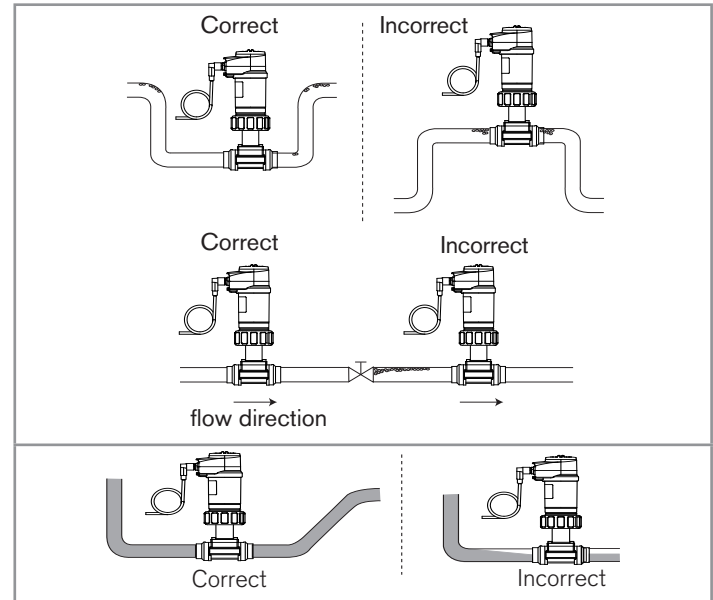

Fig. 3: Air bubbles within the pipe / Filling of the pipe
- air bubbles do not appear in the pipe, in the section around the sensor (Fig. 3).
- the pipe is always filled in the section around the sensor (Fig. 3).
- air bubbles do not appear in the pipe, in the section around the sensor (Fig. 3, chpt. 7.2.1).
- the pipe is always filled in the section around the sensor (Fig. 3, chpt. 7.2.1).